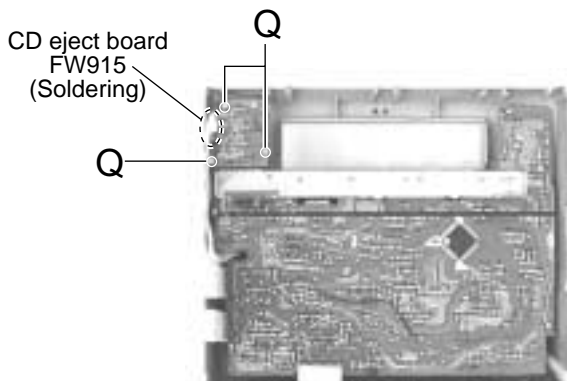

Fig.29
4. If necessary, disconnect the wire from connector CN911 on the front side of the display system control board and unsolder FW915. If necessary, remove the CD play board. (Fig. 29)